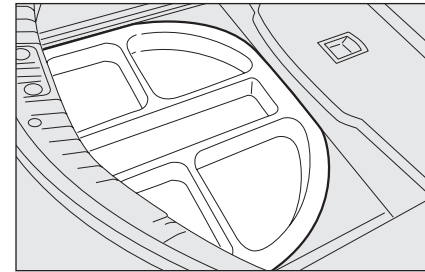

fig. 3
- remove the box as shown in **fig. 3**;